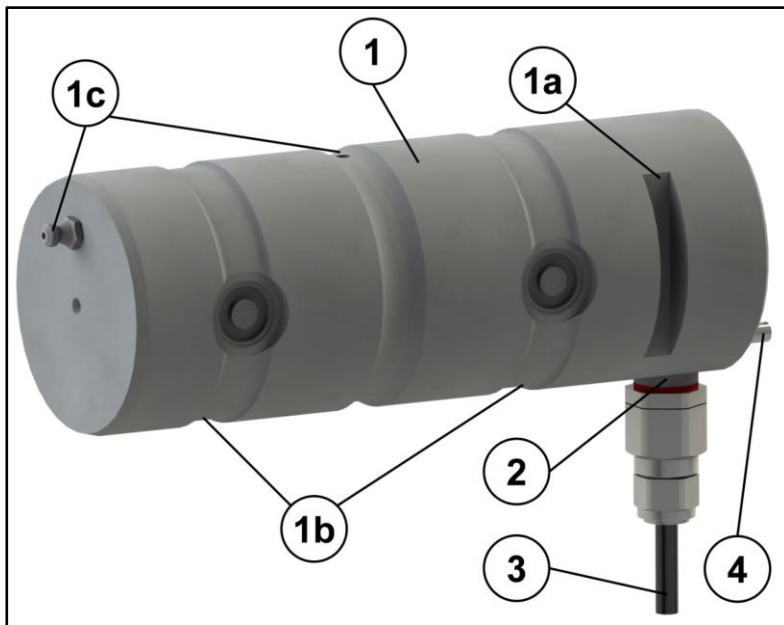

Fig. 1: Force measuring pin
The force measuring pin (1) is inserted into the mounting holes (2) of the double-shear connection, which have a corresponding diameter, and secured against unintended movement by means of a pin holder (see Fig. 1, point 1a). Force  $F$  transmitted from the connection is transmitted to the measuring electronics through analysis of the resulting deformation of the measuring body and output as an electric signal.